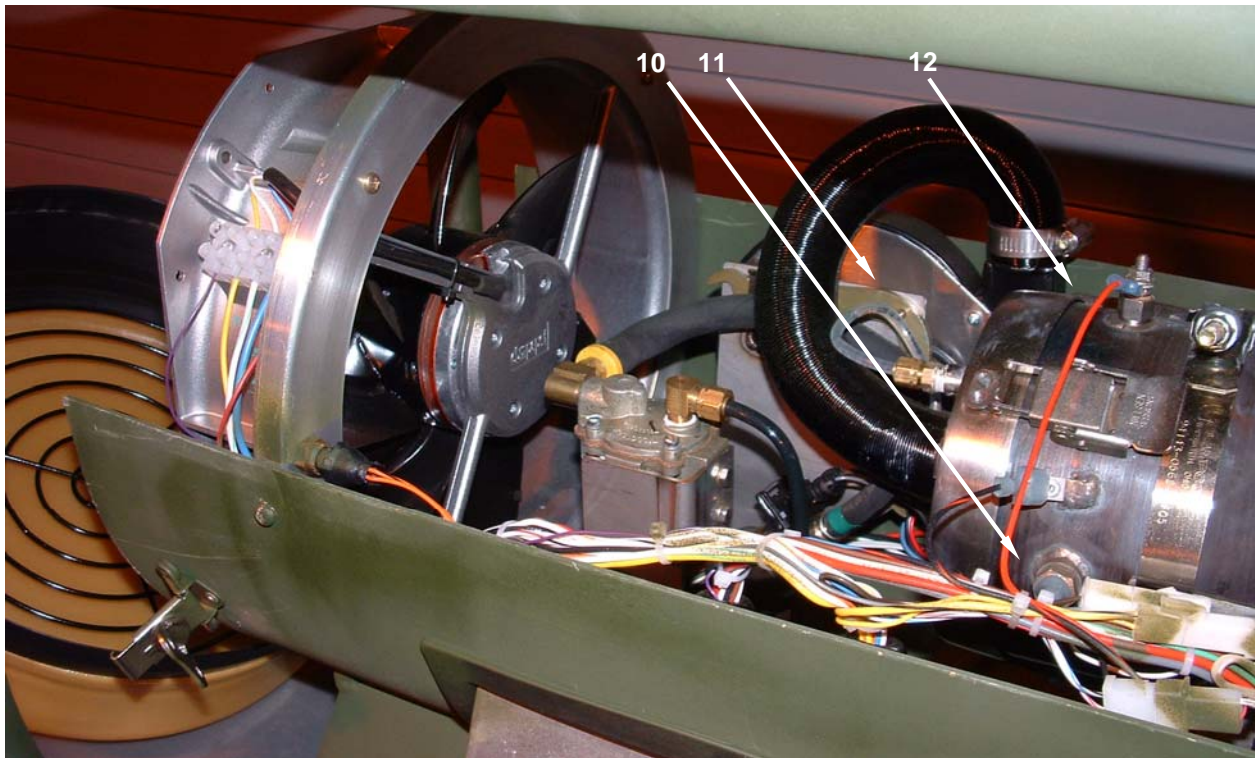

Figure 2. Replacing Flame Sensor – Interior.
6. Disconnect electrical connector from the inoperative flame sensor (**Figure 2, Item 10**).
7. Use the wrench (**Figure 2, Item 11**) supplied with the heater, unscrew flame sensor (**Figure 2, Item 10**) in counterclockwise direction from burner assembly (**Figure 2, Item 12**).
8. Use the wrench (**Figure 2, Item 11**) to remove new flame sensor (**Figure 1, Item 9**) from spare storage area at the breathable air inlet end of the heater.
9. Screw new flame sensor (**Figure 2, Item 10**) in clockwise direction into burner assembly (**Figure 2, Item 12**).
10. Tighten securely with wrench (**Figure 2, Item 11**).
11. Reconnect electrical connector to the flame sensor (**Figure 2, Item 10**).